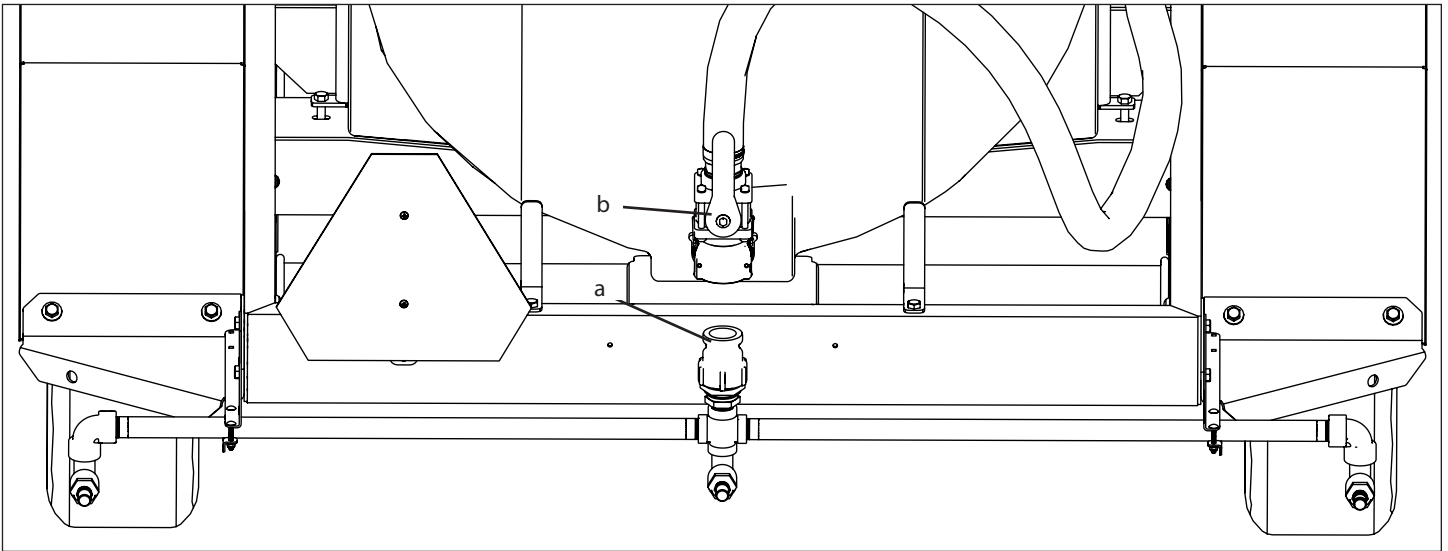

Figure 6: Rear Watering Bar
2. Couple the coupler to the quick coupling (a) (Figure 6) on the rear watering bar, and open the valve (b).